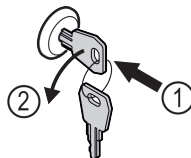

Fig. 170
- ▶ Insert the key. Fig. 170 (1)
- ▶ Turn the key anticlockwise by 90°. Fig. 170 (2)